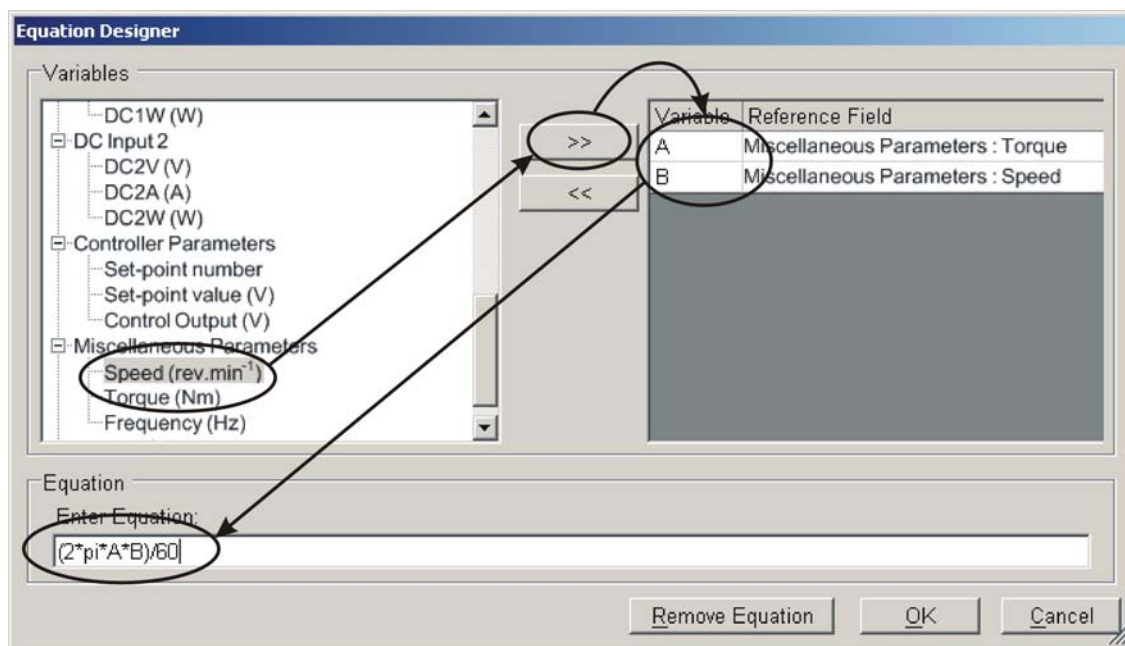

Figure 22 Example of Creating an Equation
1. Click on the calculation definition text box to make the new Data Field into a calculated field, it will become highlighted and a browse button (...) will appear to the right. To choose the type of calculation, click on the browse button. An Equation Designer dialogue box will appear to customize your calculated field (see Figure 22).